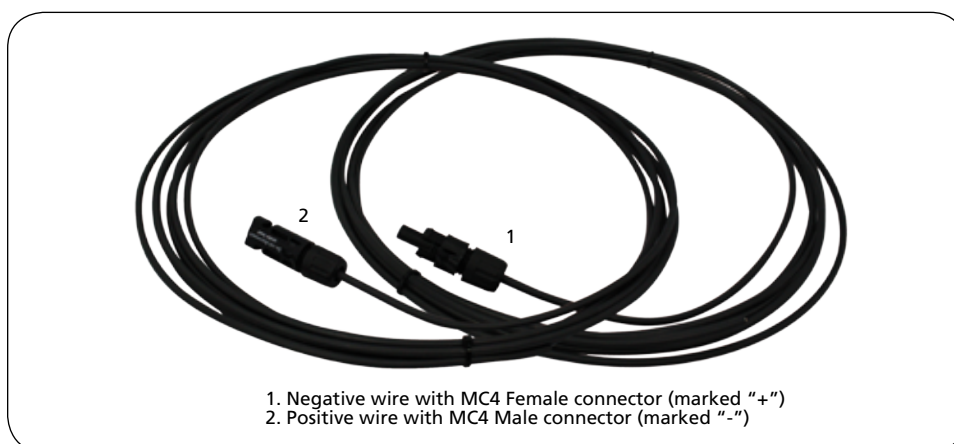

Fig. 8.5. Solar Panel Connecting Wires kit "SCW-20-2"
3. Solar Panel Connecting Wires kit "SCW-20-2" consisting of 2 pre-assembled, 20 ft, AWG #12, Positive (+) & Negative (-) PV extension wires have been provided (see Fig. 8.5). The wires have MC4 mating connectors on one end for connecting to the solar panel & bare ends on the other side for connecting to the Charge Controller. The wires are marked (+) & (-) for identification of the polarity.